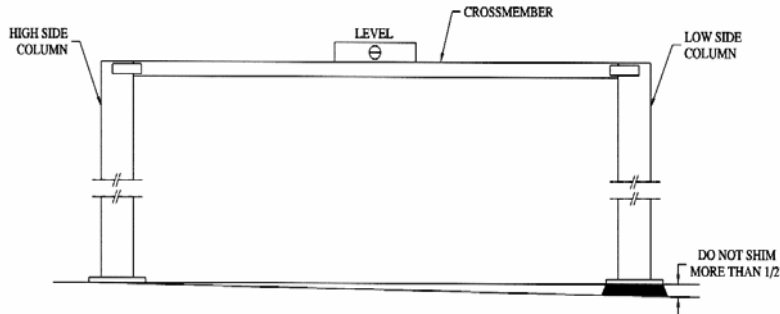
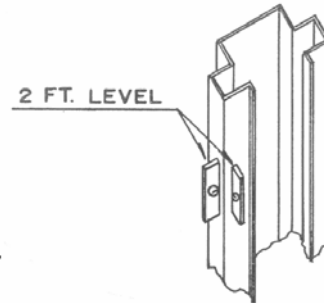
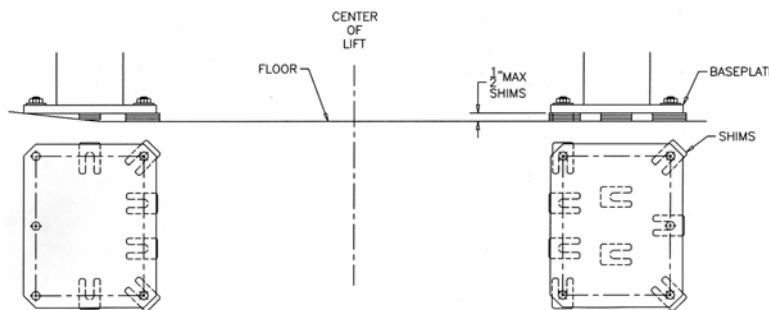

Figure 12
Figure 13
Figure 14 - Shims
1. Using a 4ft. level on top of the crossmember, determine which column is higher. Refer to **Figure 12**.
2. Using a 2ft. level on the sides of the high column, ensure that the column is level in the vertical position (**Figure 13**). Use shims under the column baseplate to hold the column level. Ensure that the base plate is completely supported by shims where it does not contact the floor (**Figure 14**).
5. Reconfirm that the column is level front to rear and side to side (**Figure 13**). Add or remove shims as required.
1. Using a 4ft. level on top of the crossmember (**Figure 12**) and a 2ft. level on the low side column (**Figure 13**), shim underneath the baseplate until the crossmember and column are level. Ensure that the baseplate is completely supported by shims where it does not contact the floor (**Figure 14**).
4. Reconfirm that the column is level front to rear and side to side (**Figure 13**). Add or remove shims as required.